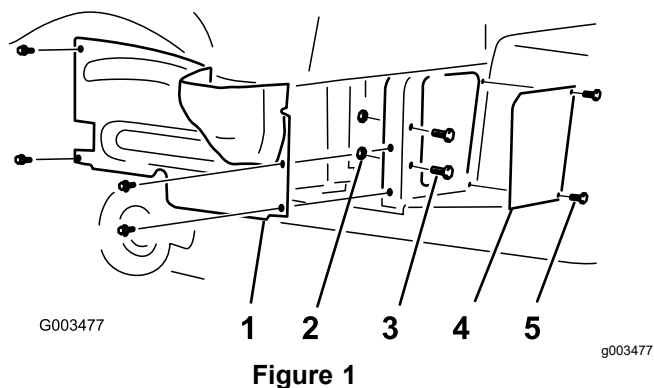

Figure 1
2. Remove the 4 flange-head screws that secure the right-hand wheel shroud to the frame (Figure 1).
4. Remove the 2 screws, 2 bolts, 2 washers and 2 nuts that secure the screen panel to the frame and retain the washers for later installation (Figure 1).